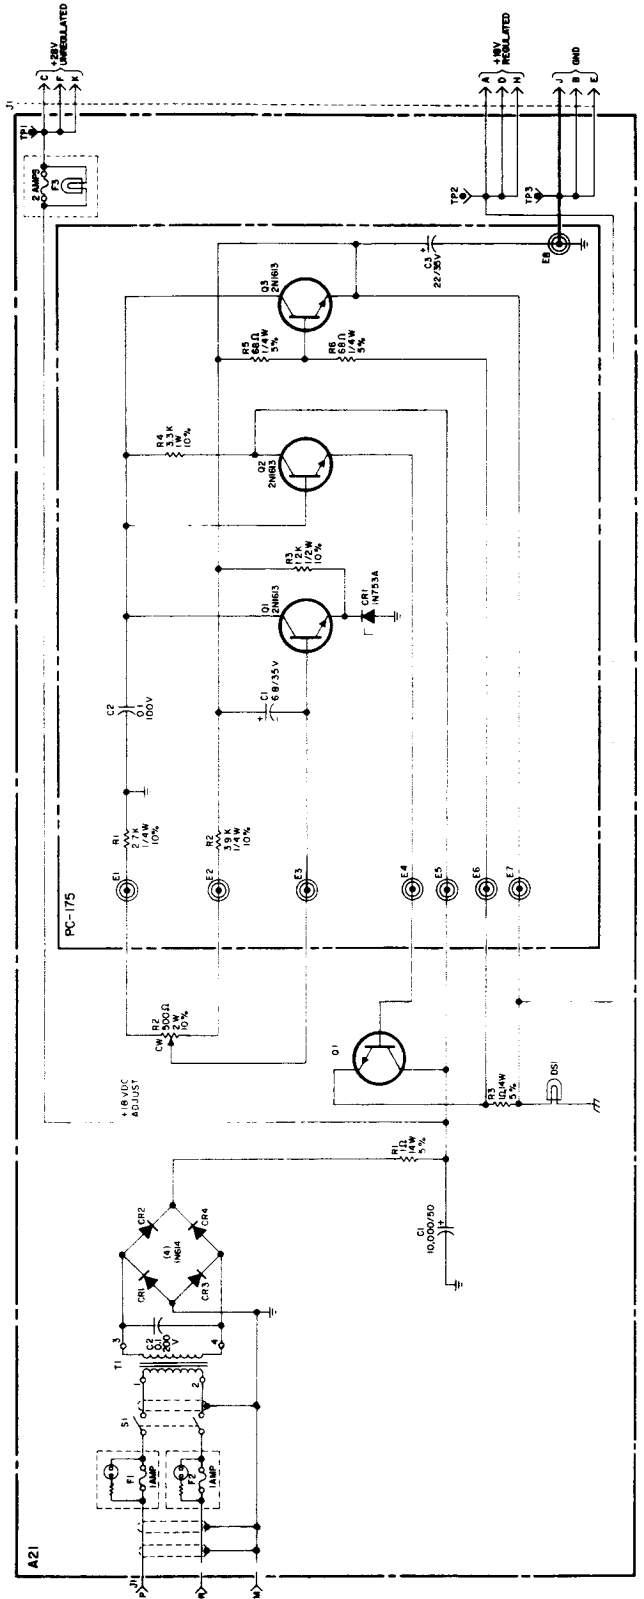

FIGURE 4-9. SCHEMATIC DIAGRAM - POWER SUPPLY PP-4846/SRA
(1) GENERAL. - Figure 4-9 illustrates the schematic diagram for the PP-4846/SRA power supply which powers all couplers in a given coupler group. The supply provides unregulated +28 vdc and regulated +18 vdc outputs and incorporates a potentiometer adjustment for varying the regulated output between 16.5 and 19.5 vdc.
(2) COMPOSITION. - The power supply consists of the following subcircuits.